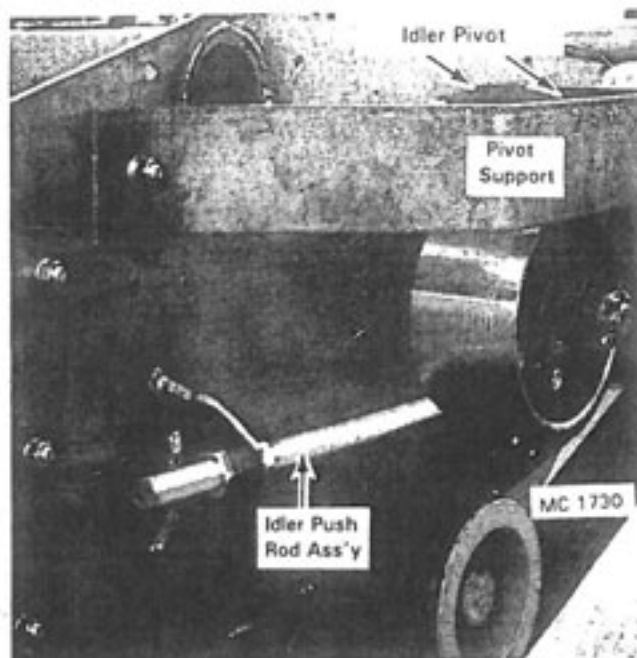

Figure 47 - Idler Push Rod Ass'y.
4. Remove the three capscrews, lockwashers and hex nuts securing the idler pivot support to the Shredder body, see Figure 47 & 48. Remove the idler pivot support and pull the idler pulley assembly off of the idler pivot.
5. Remove cotter pin (1), castellated nut (2) and idler bolt (6) from the idler arm (5).
7. Pack the new bearing cones (9) with a good grade of wheel bearing grease. Press the bearing cups (10) into the hub, install bearing cones (9) and press in the bearing seals (8).
8. Put a hub spacer (7) on each side of the hub assembly and place the assembly in the idler arm (5). Install idler bolt (6) and castellated nut (2). Tighten the nut just enough to hold the assembly together.
9. Place the idler pulley assembly on the idler pivot. Install the idler pivot support, see Figure 47 & 48. Do not tighten the capscrews until after the idler pulley alignment has been checked.